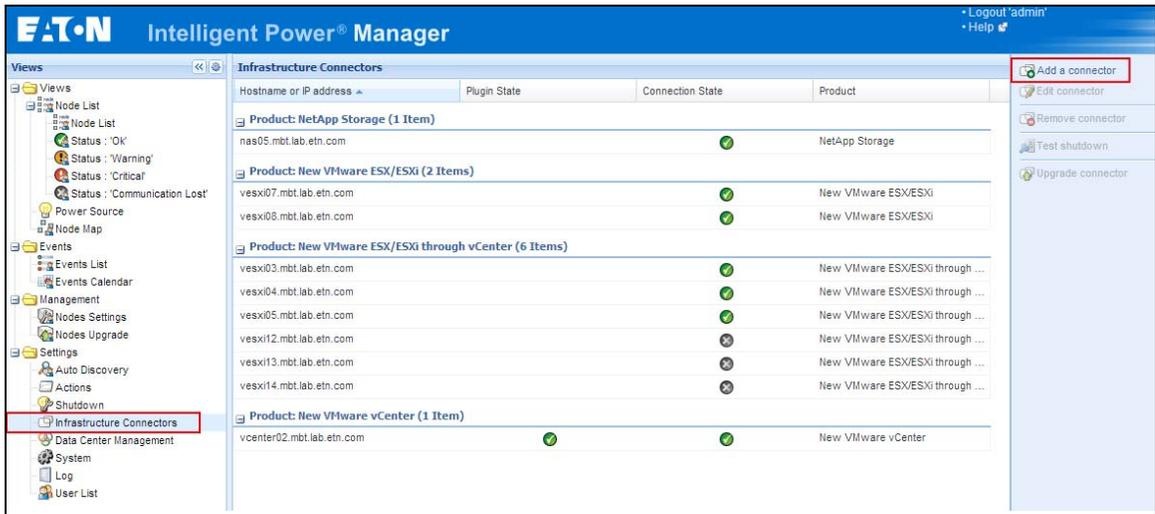

Figure 84. System Settings Page
1. From the left-side **Views** panel of the Eaton IPM main interface window, select the **Settings > System** menu item. The System page displays (see Figure 84).